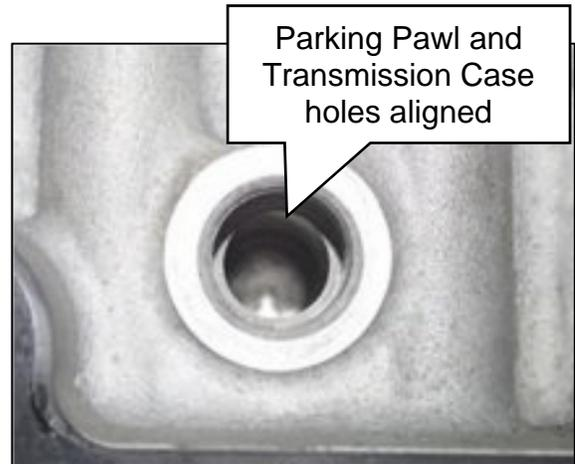

Figure 17
- Remove the Phillips head screwdriver and verify the Parking Pawl and the Transmission Case holes are aligned, as shown in Figure 17.
- If the Parking Pawl and the Transmission Case holes are aligned, as shown in Figure 17, skip to step 21 on page 12 for **Parking Pawl Pin Installation**.